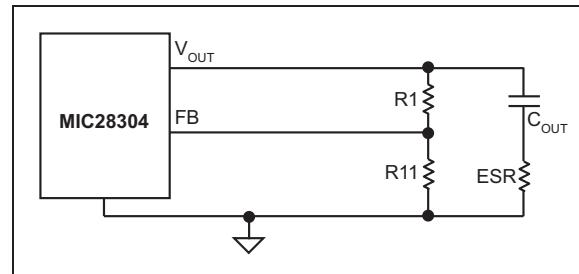

FIGURE 7-5: Enough Ripple at FB.
- Enough ripple at the feedback voltage due to the large ESR of the output capacitors (Figure 7-5):
As shown in Figure 7-5, the converter is stable without any ripple injection.